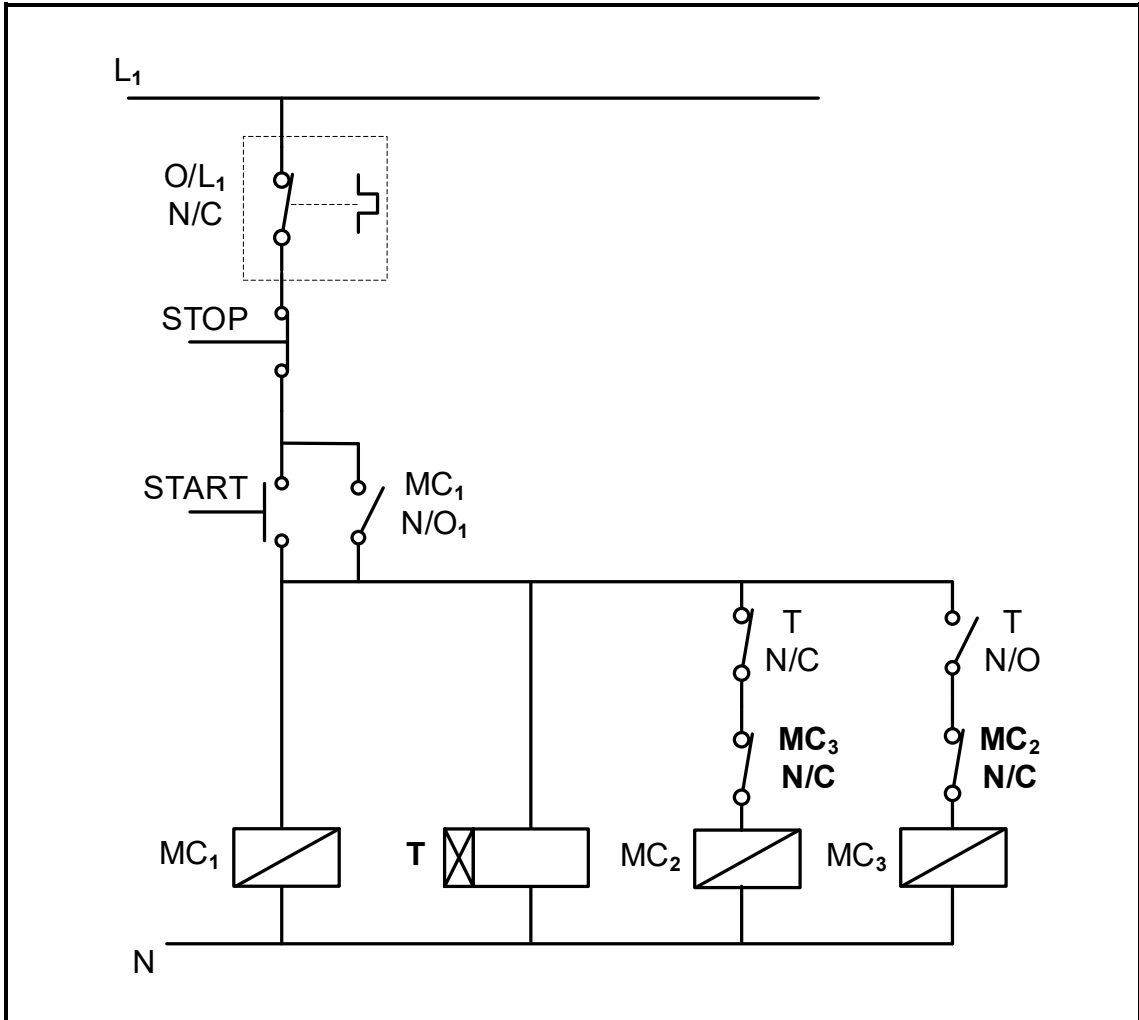

FIGURE 6.3: AUTOMATIC STAR-DELTA STARTER
6.3 FIGURE 6.3 below shows the control circuit of an automatic star-delta motor starter with a timer. The timer is set to 3 seconds. Answer the questions that follow.